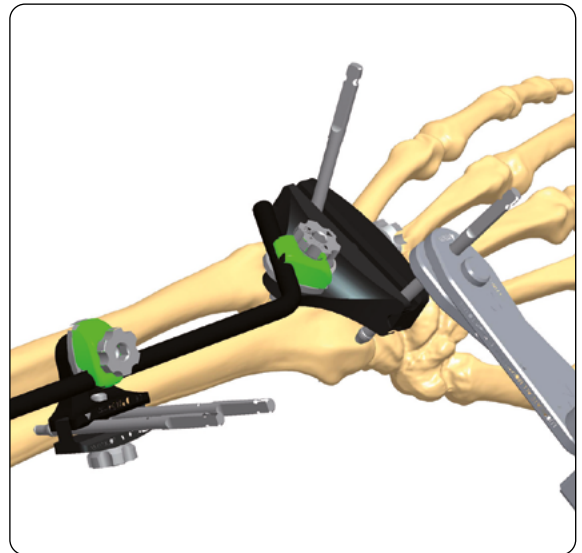

Fig. 39
- If necessary cut the screw shafts with the 4mm Cutter (94101-not provided in the tray) (**Fig. 39**)